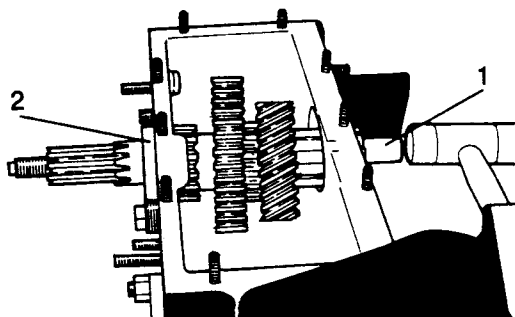

Fig H2.15
- (1) Refer to Fig H2.15. Use a plastic hammer to knock the output shaft (1) backwards.
- (2) Extract the rear bearing outer track (2) when it moves out of its housing in the casing.